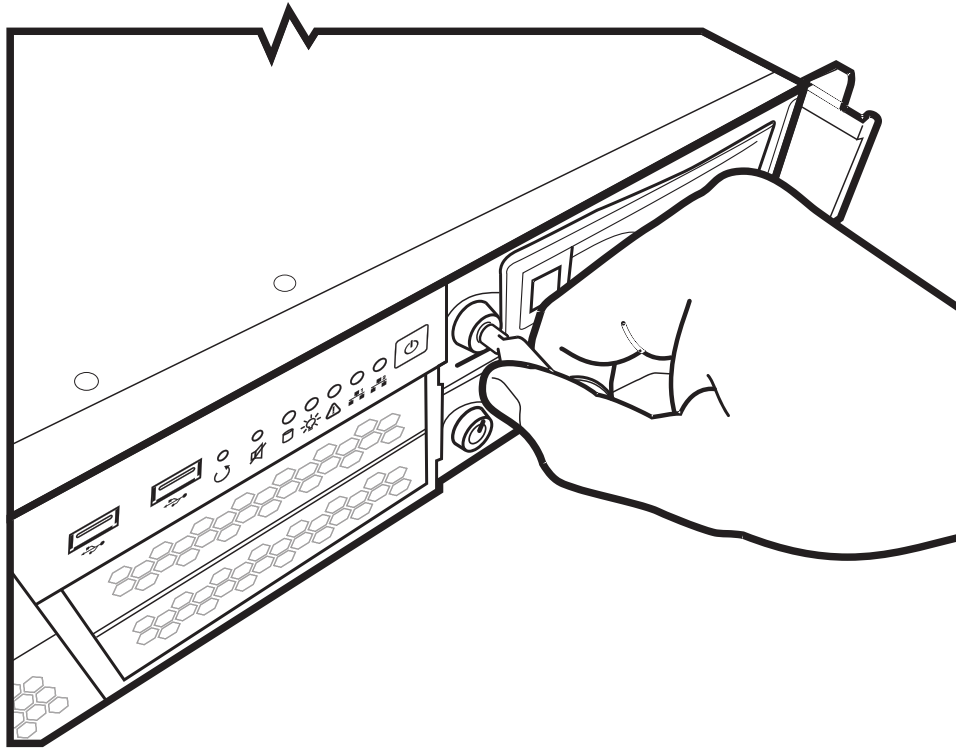
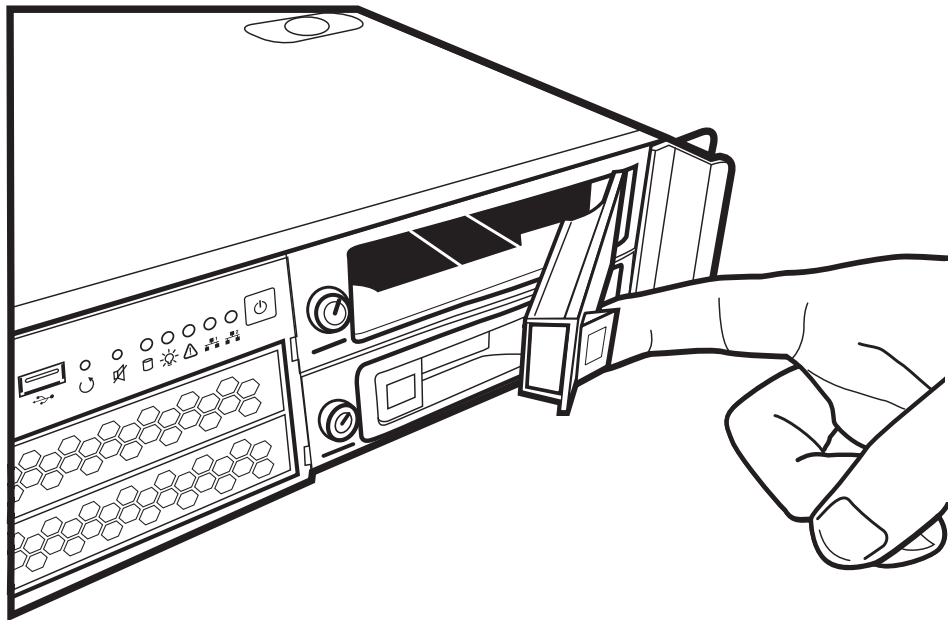

Figure 2.14 Unlocking the Hard Disk Door
Figure 2.15 Opening the Hard Disk
2. Using the hard disk key, open the top hard disk tray. See figure 2.14 on page 20, and figure 2.15 on page 20.